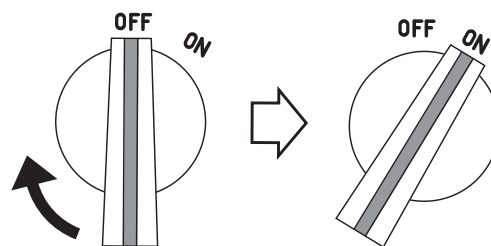

**Figure 13. Choke Lever (Closed)**
3. Place the choke lever (Figure 13) in the "CLOSED" position if starting a cold engine.